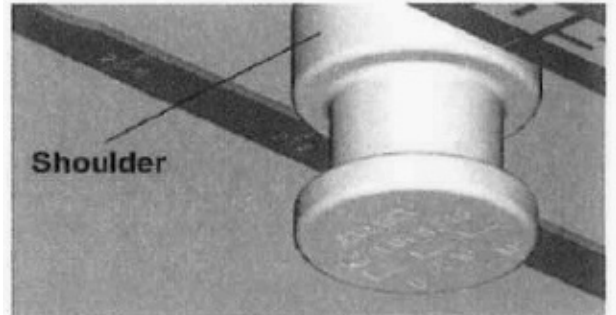

FIGURE 2
- A. Repeat the above procedure using the large slot on the shoulder of the kingpin (see figure 2).